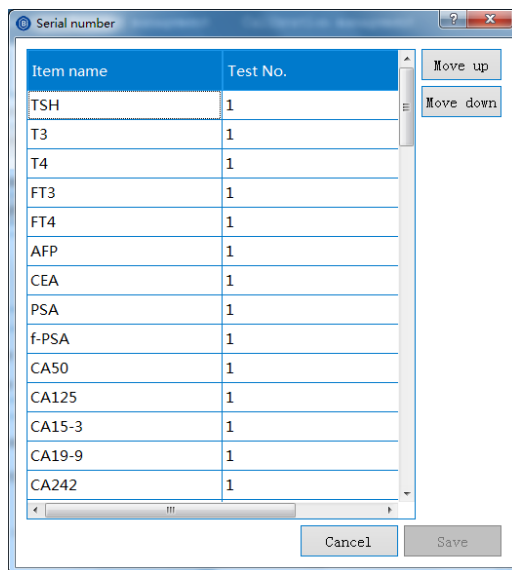

Figure. 8.7.8 Serial number for test items
- Select **System** tab under **Useful tools** and click **Test item number** to pop up the serial number dialog box, as shown in Figure 8.7.8. The order of the test items initially follows the item number sequence from small to large.